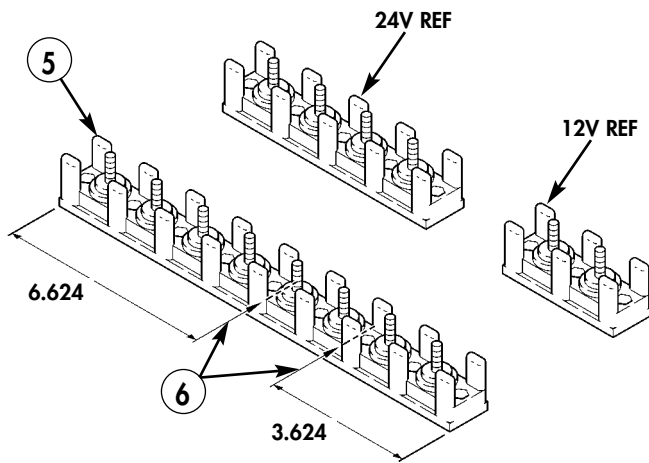

Figure 5-4.
- 3-6. Measure and cut terminal board (5) in two places (6) as shown in figure 5-4. Remove burrs and sharp edges.